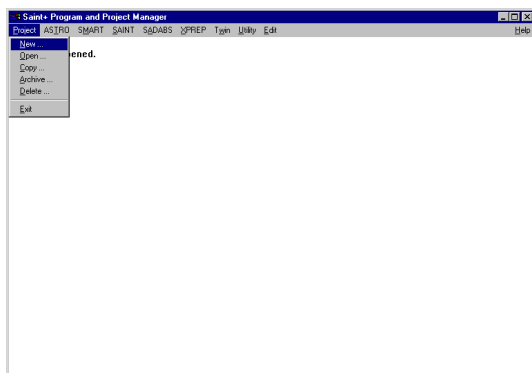

Figure 5-1. Create a new project
2. Click Project > New to create a new project (Figure 5-1).